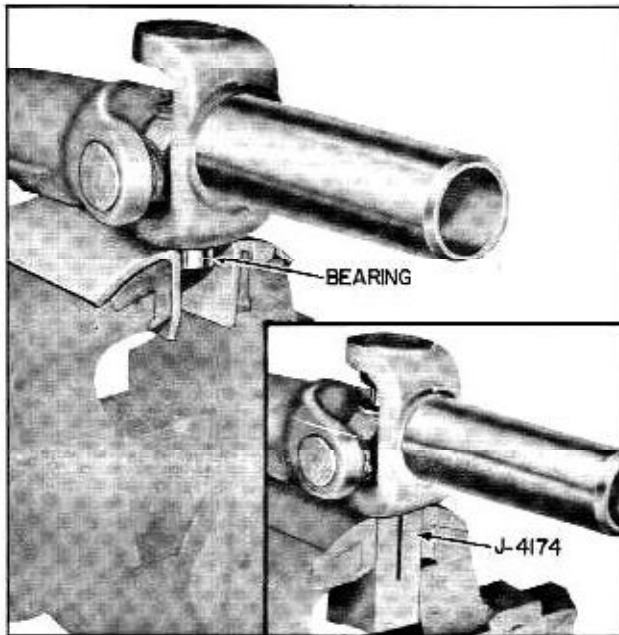

Fig. 6-4 Bearing Removal (Saginaw)
4. Clamp the partially exposed bearing in a brass jawed vise, then tap yoke until bearing is removed. (Fig. 6-4) Remove bearing from vise.
- NOTE: The use of Tool J-4174 will facilitate removal of bearings. (Inset, Fig. 6-4)